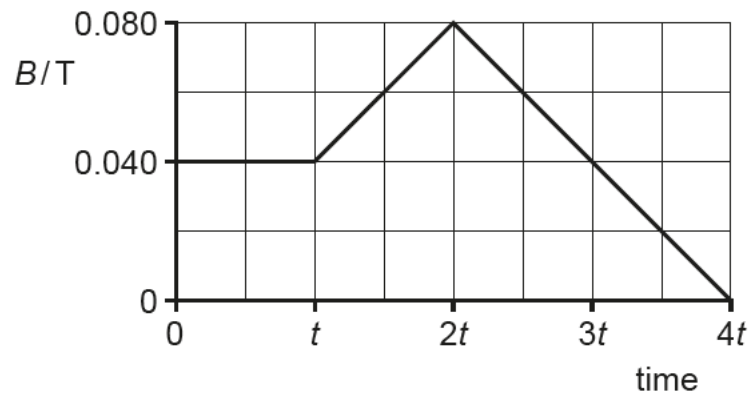

Fig. 6.3
- (iii) Coil C is now held stationary at X. The current in the solenoid varies so that the magnetic flux density  $B$  at X varies from time 0 to time  $4t$  as shown in Fig. 6.3.